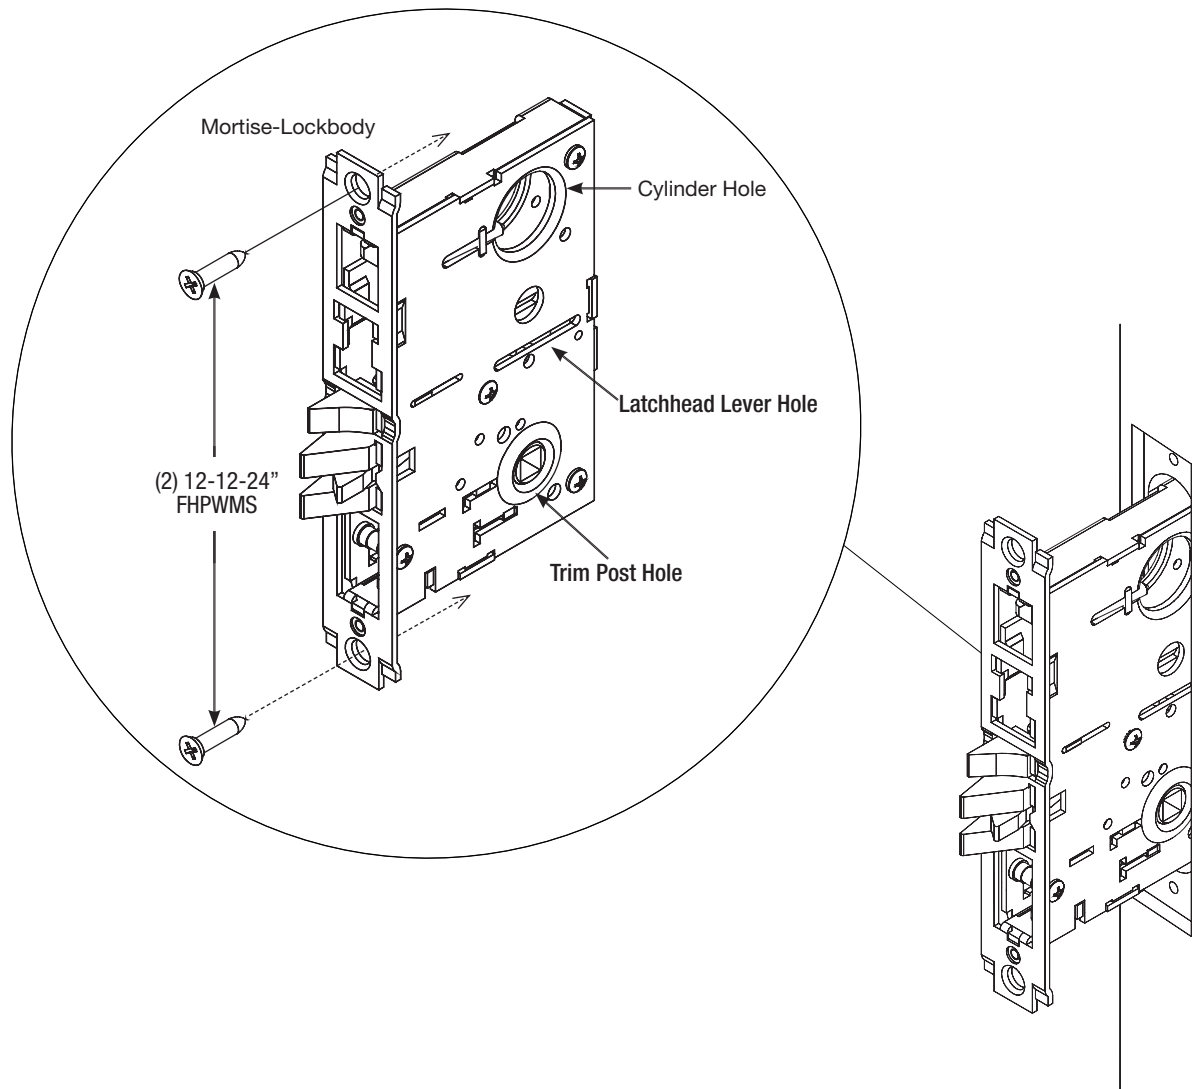

Figure 5: Install Lockbody (Mortise)
1. With lockbody in door cavity, fasten to door edge with two (2) 12-12-24" FHPWMS. Leaving screws loose two (2) full turns (Figure 5).